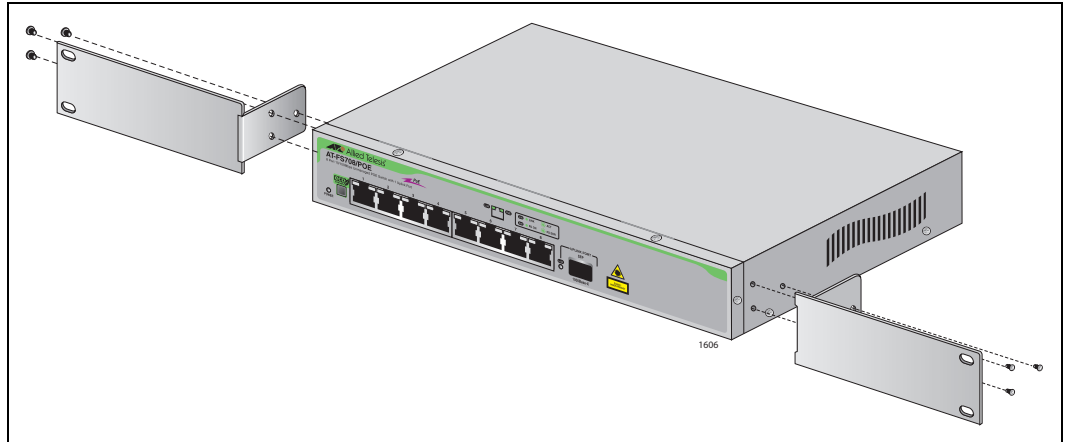

Figure 7. Attaching the Mounting Brackets
2. Attach a mounting bracket to each side of the switch using the six bracket mounting screws as shown Figure 7.